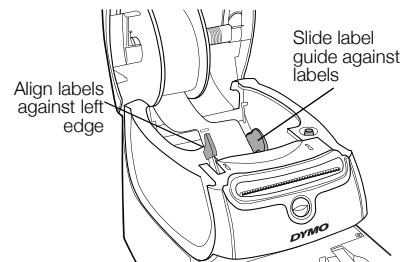

Figure 8
- The labels must be loaded with the left edge of the label inserted against the left edge of the label feed slot. See Figure 8.
- 7 Align the left edge of the label with the left edge of the label feed slot and insert the label into the slot. See Figure 8.
- 8 Slide the label guide to the left until the label guide aligns with the right edge of the label. See Figure 8.